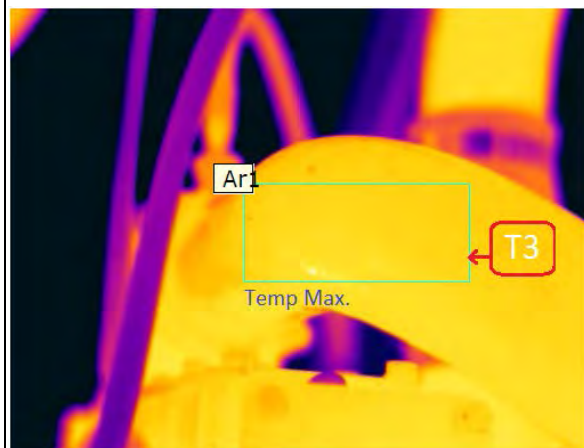
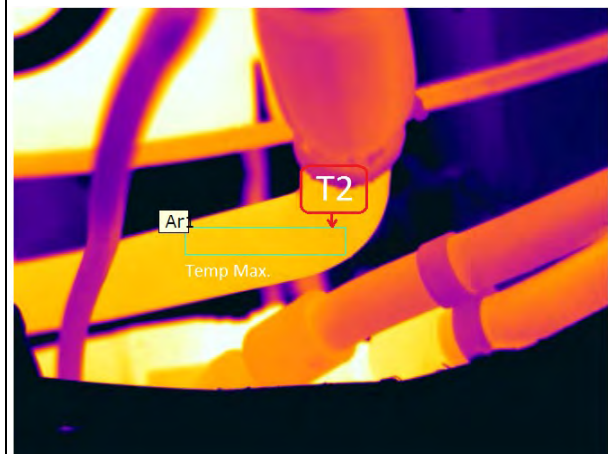

Fig6. (T3) Temperature towards the water pump (referential temperature)
Fig7. (T2) Radiators' outlet temperature
Figure 6 (Fig6.) shows an inspection performed on our customer's 994F loader in Cerro Verde, where 03 cores were clogged (15% of the total) generating engine-over-heating. After cores were replaced, the issue was fixed.
2. In case there is no internal clogging, analyze temperature delta of thermal images from T1 & T2 points (see Chart 1) – Fig5, Fig6 & Fig7